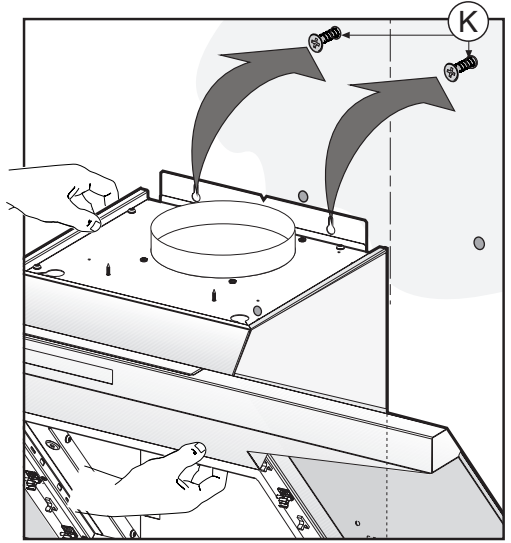

Fig.7
- Place the appliance against the wall, align it in horizontal position and tighten screws **K** (Fig.7).